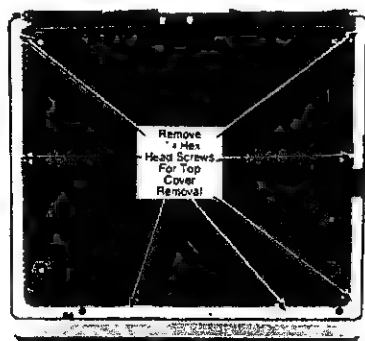

Fig. 2-2. — Top Cover Removal
2. Remove 7 each 1/4" hex head screws (Fig. 2-2) around outer edge of cabinet bottom.